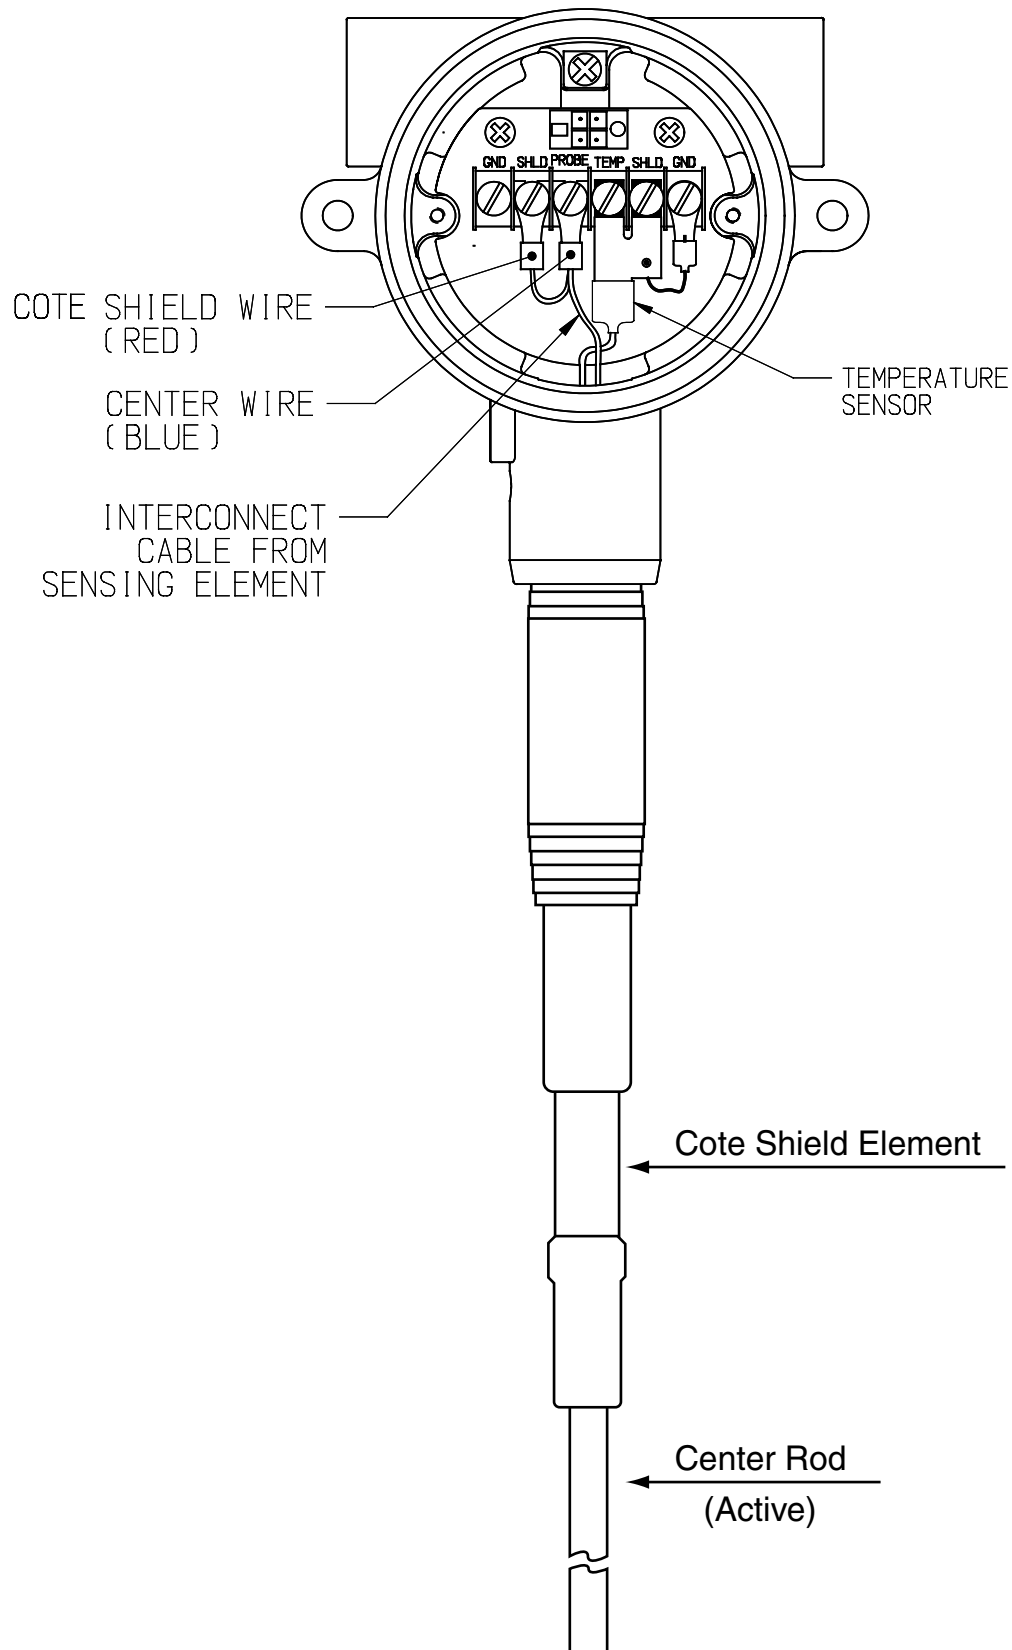

Figure 7-3
2. If temperature is incorrect remove temperature sensor connections in the housing. Refer to "Figure 7-3" on page 41.
- 2. Disconnect sensing element interconnect cable in the housing, red and blue wires. Reference "Figure 7-3" on page 41.